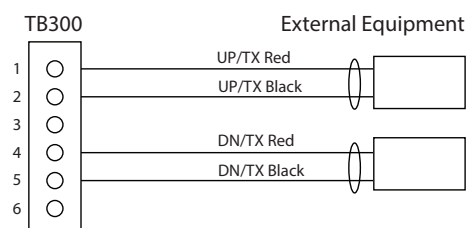

Figure 18: Upstream/downstream transducer
3. The terminals within the transmitter are screw-down barrier terminals. Connect the wires at the corresponding screw terminals in the transmitter. Observe upstream and downstream orientation and wire polarity. See Figure 18.